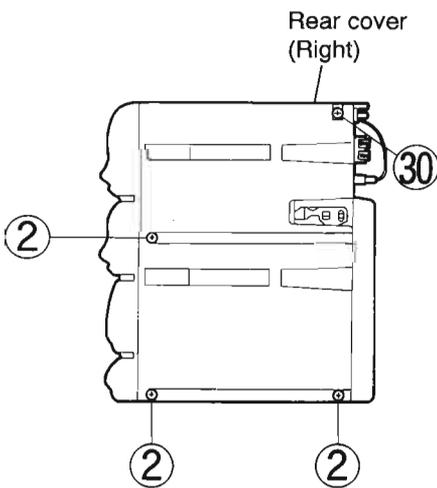
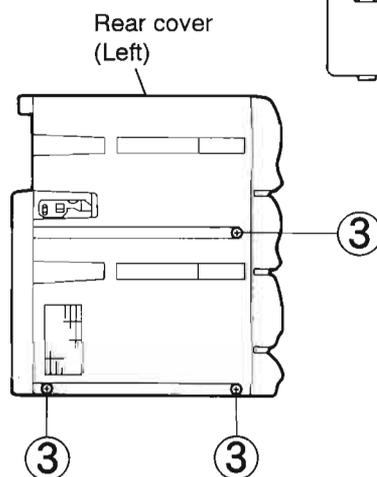
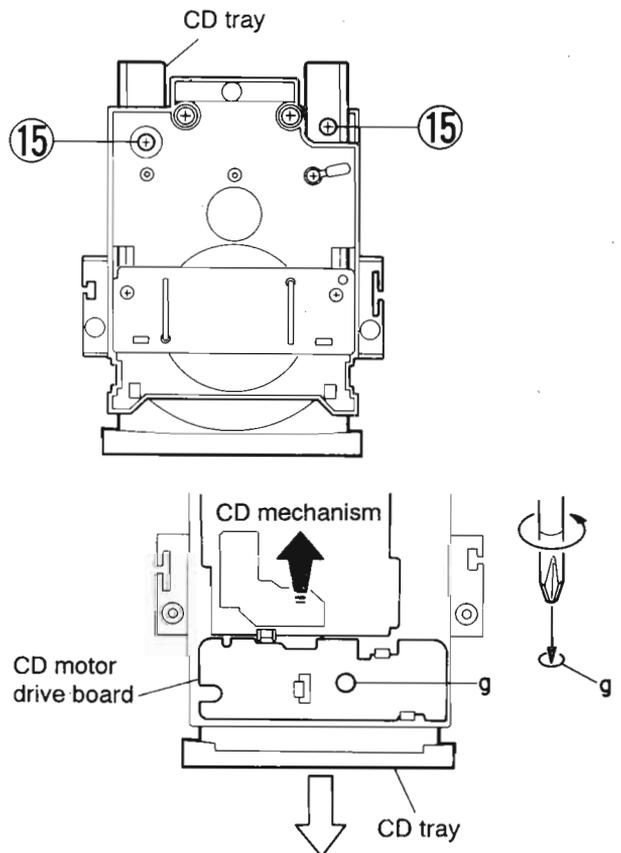

Fig. 5-2
Fig. 5-3
Fig. 5-13
2. Remove the three screws (2) retaining the rear cover from the right side of the body (Refer to Fig. 5-2).
3. Remove the one screw (30) retaining the rod antenna and take it out.
4. Remove the three screws (3) retaining the rear cover from the left side of the body (Refer to Fig. 5-3).
**How to Remove the CD Tray** (Refer to Fig. 5-13)
5. Remove the two screws (15) playing a role of CD tray stopper.
6. Insert the driver into the hole (g) on the CD motor drive P.C. board and turn it in the arrow direction as shown in Fig. 5-3. Then, the CD mechanism will be raised in the arrow direction.